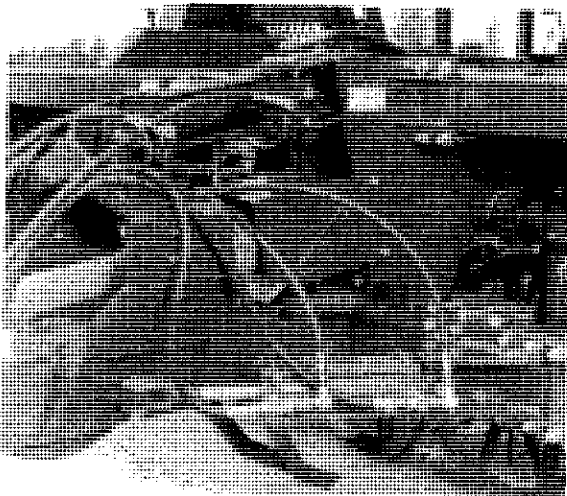

FIGURE 59 - HITCH INSTALLATION
Attach the hitch support assembly to the bottom front tube on the main frame using two (2) 1  $\frac{1}{8}$ " x 7" hex bolts, two (2) 1  $\frac{1}{8}$ " hex nuts and two (2) 1  $\frac{1}{8}$ " lock washers (see figure 59). Do not tighten at this time.
Attach hitch assembly to pivot point on hitch support assembly using pivot pin, slotted nut and cotter pin (see figure 59). Reposition jackshaft extension bearing if necessary and reinstall. Attach the PTO to the jackshaft extension using a  $\frac{3}{8}$ " woodruff key, a  $\frac{3}{8}$ " x  $\frac{1}{2}$ " set screw and a  $\frac{3}{8}$ " x 3  $\frac{1}{2}$ " hex bolt and  $\frac{3}{8}$ " lock nut. Install two (2) hose carriers (loops toward hitch centerline) to the hitch assembly with two (2)  $\frac{3}{8}$ " x 1  $\frac{1}{2}$ " hex bolts, two (2)  $\frac{3}{8}$ " lock washers and two (2)  $\frac{3}{8}$ " nuts.